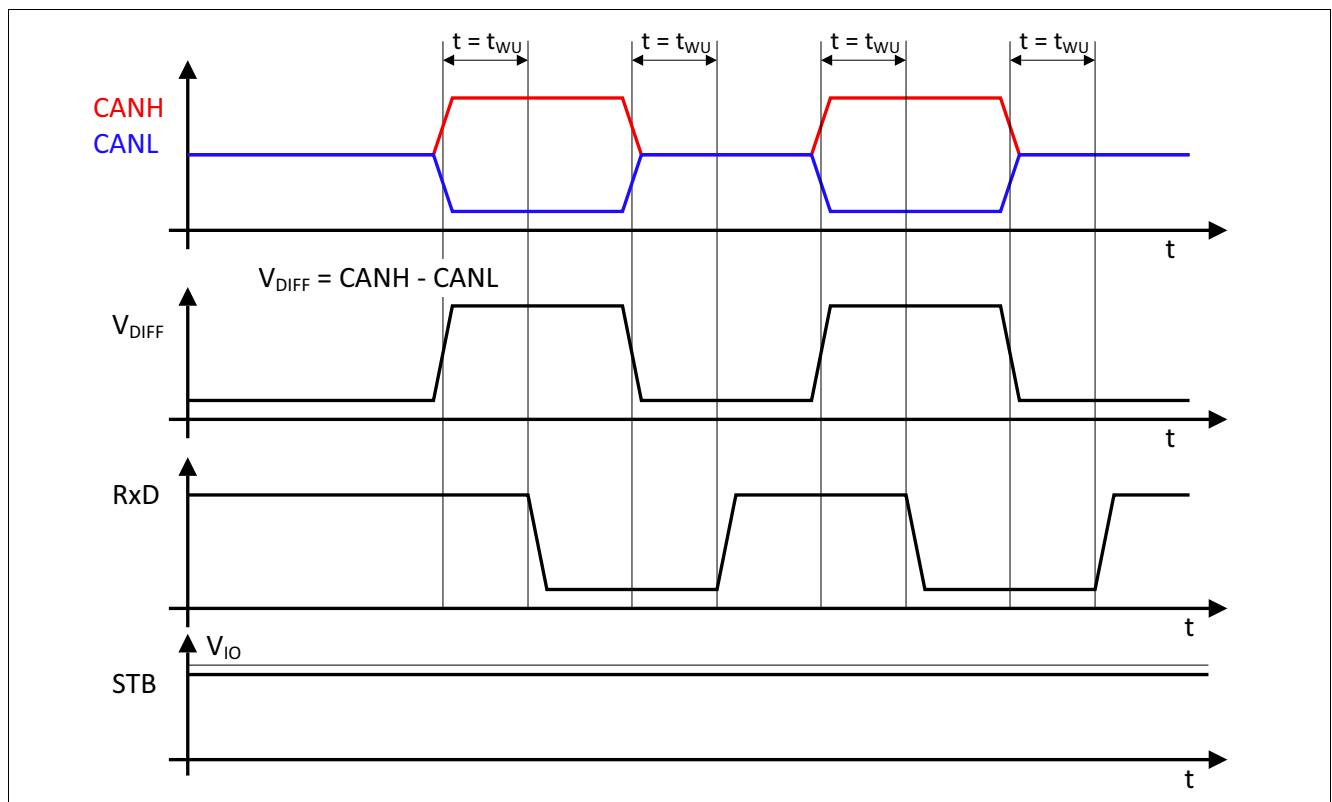

Figure 5 Wake-up pattern
- The RxD output is “high”, in case no wake-up signal on the CAN bus is detected (see Figure 5).
- The RxD output toggles according to the wake-up signal on the CAN bus (see Figure 5).
While entering into stand-by mode by setting the STB pin to logical “high”, the RxD output pin is set to logical “high”, regardless of the signal on the CAN bus. The low-power receiver of the TLE6251D requires a signal change from “recessive” to “dominant” on the CAN bus before the RxD output is enabled and follows the signal on the CAN bus. CAN bus signals, “dominant” or “recessive”, with a pulse width above the bus wake-up time $t > t_{WU}$ are indicated on the RxD output pin (see Figure 5).